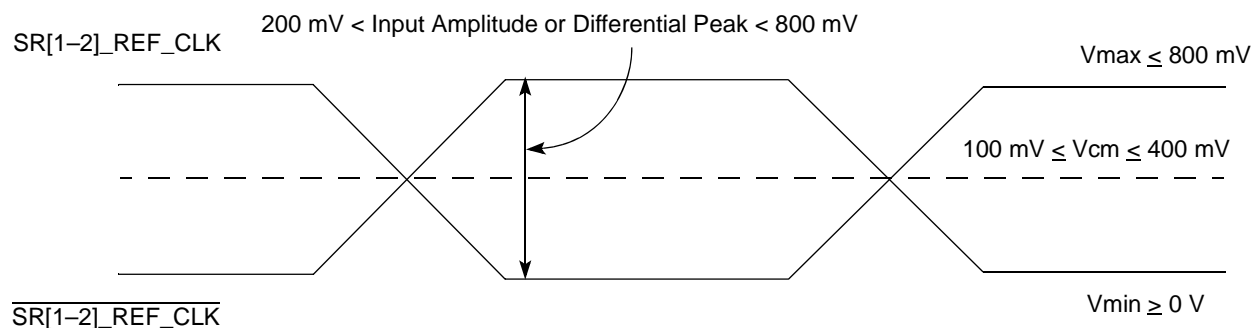

Figure 7. Differential Reference Clock Input DC Requirements (External DC-Coupled)
- For an external DC-coupled connection, the maximum average current requirements sets the requirement for average voltage (common mode voltage) as between 100 mV and 400 mV. **Figure 7** shows the SerDes reference clock input requirement for DC-coupled connection scheme.